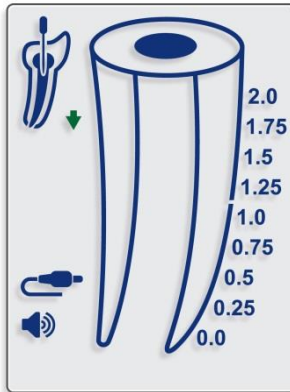
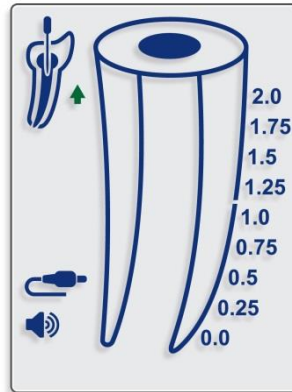

Fig. 5
Fig. 6
- 5.4.11. Movement of the file inside the canal is reflected by the DOWN (Fig. 5) and UP (Fig. 6) arrows on the screen.